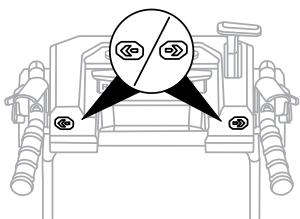

Fig. 9A
**NOTE:** The direction of snow removal can be adjusted up to 200° by pressing the chute rotation button. (Fig. 9A)